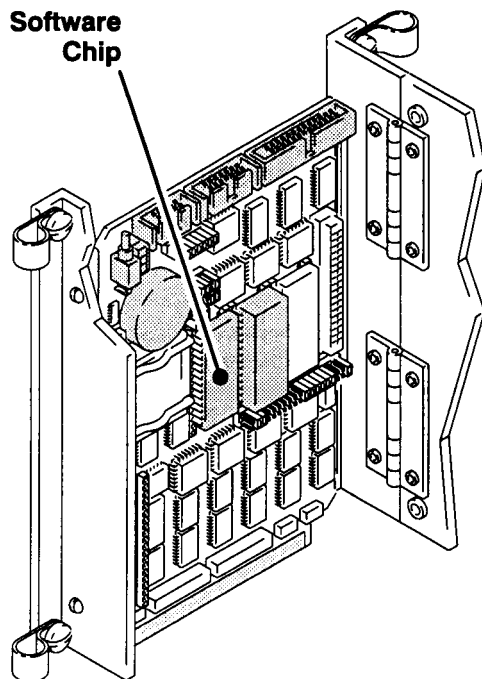

Fig 5
3. Locate the software chip on the computer card. See Fig 5. Note the direction of the chip and which side of the chip the blank spaces are on.